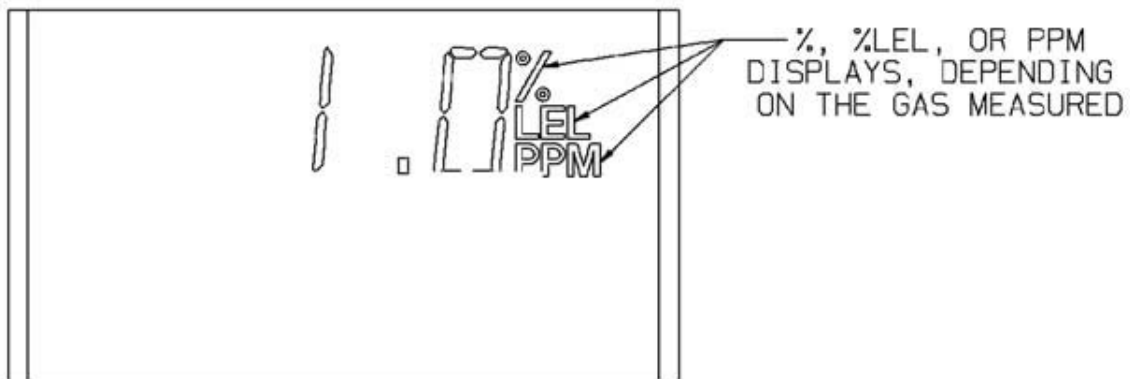

Fig. 20 LCD Gas Concentration Display
- After the 30-second countdown, observe that the gas type and gas concentration (ppm, % Gas, or % LEL) alternately flash (Fig. 20).